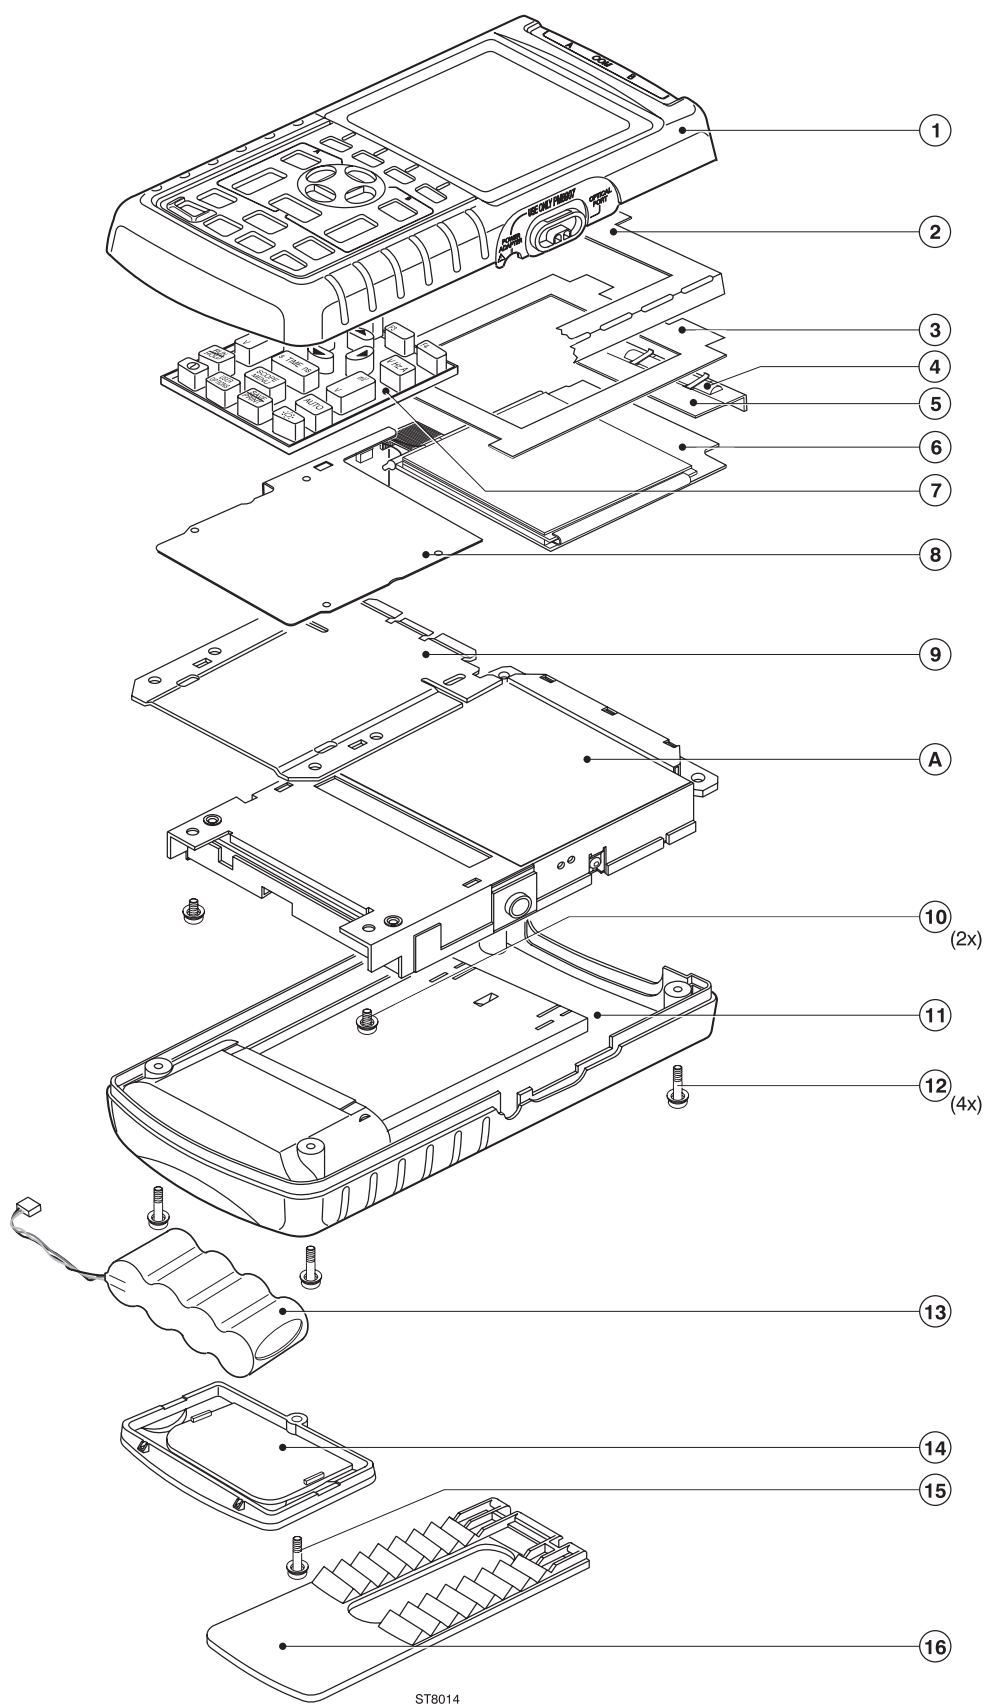

Figure 6-1. Fluke 123 Main Assembly
Referring to Figure 6-1, use the following procedure to remove the battery pack.
1. Loosen the M3 Torx screw (item 15) (do not remove it) from the battery door.
Referring to Figure 6-1, use the following procedure to remove the bail (item 16).
Referring to Figure 6-1, use the following procedure to open the test tool.
Referring to Figure 6-1, use the following procedure to remove the main PCA unit.
There are no serviceable parts in the display assembly. Referring to Figure 6-1, use the following procedure to remove the display assembly.
Referring to Figure 6-1, use the following procedure to remove the keypad and the keypad foil.
Reassembling the test tool is the reverse of disassembly. However you must follow special precautions when reassembling the test tool. Refer also to figure 6-1.